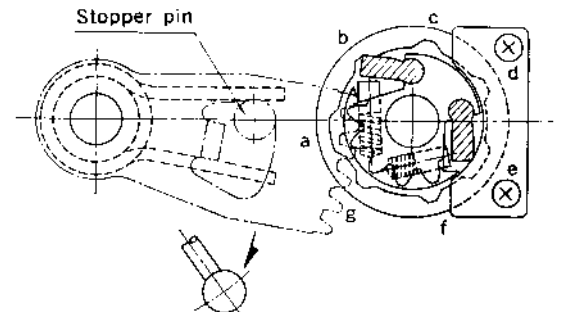

Fig. 63 Operation of shift pedal pushed down
- C-2. Operation of shift pedal pushed-down. (Fig. 63)